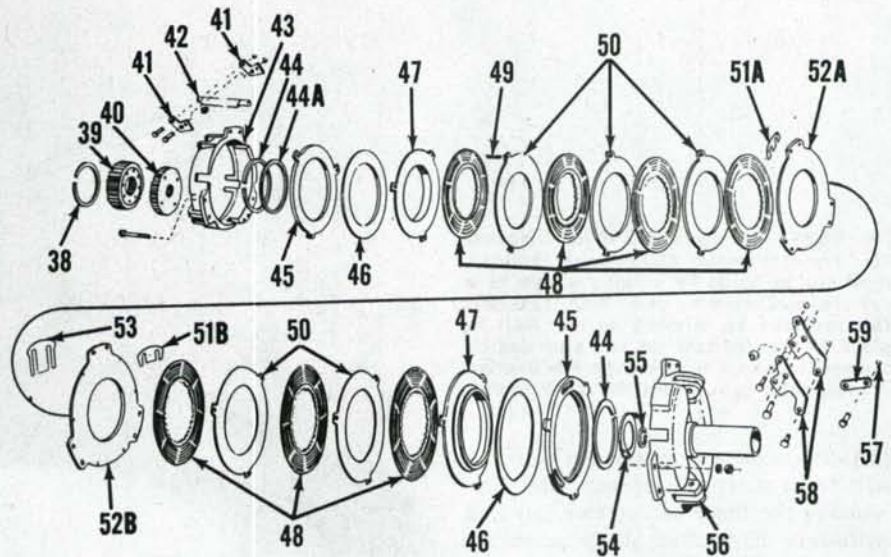

Fig. AC91 — Exploded view of "Power-Director" clutch assembly. Unit is equipped with more drive and driven plates than shown. Refer to text.
115. CLUTCH ADJUSTMENT. Refer to Fig. AC91. Clutch plate pressure is applied through a spring (Belleville) washer (46) that is located between the pre-load plate (45) and pressure plate (47) of each clutch pack. The spring washer must be compressed 0.042 to 0.048 inch when clutch pack is engaged. If compression is less, slippage of clutch will result. If compression of spring washer is greater than 0.048, clutch pack will not release properly. Adjustment is provided with shim packs (51A, 51B and 53) placed between the clutch housings and adjoining center plates and between the center plates.